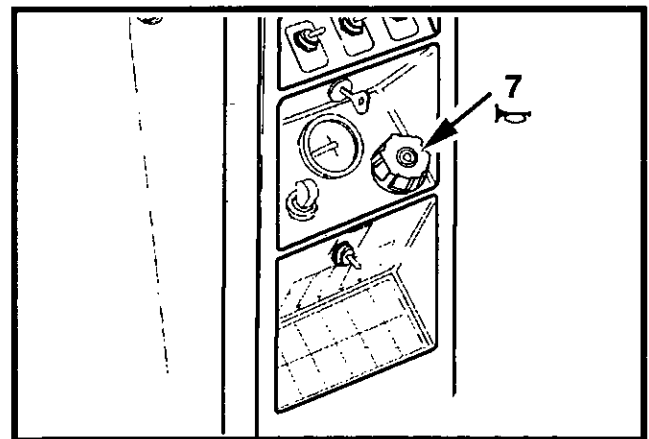

Figure 4-9 Horn Switch
8. Press  to check the operation of the horn button (7, Figure 4-9) to verify that horn does operate.